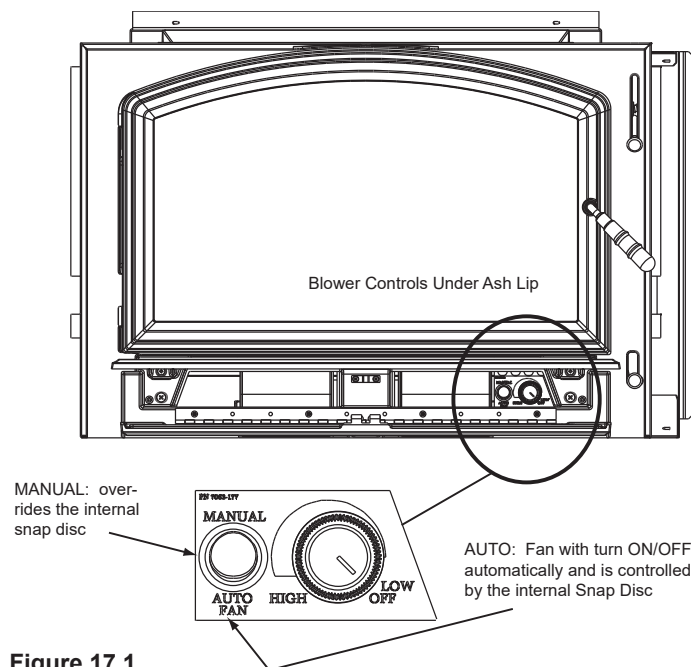

Figure 17.1
1. The blower will turn on/off automatically when set to AUTO (**Figure 17.1**).